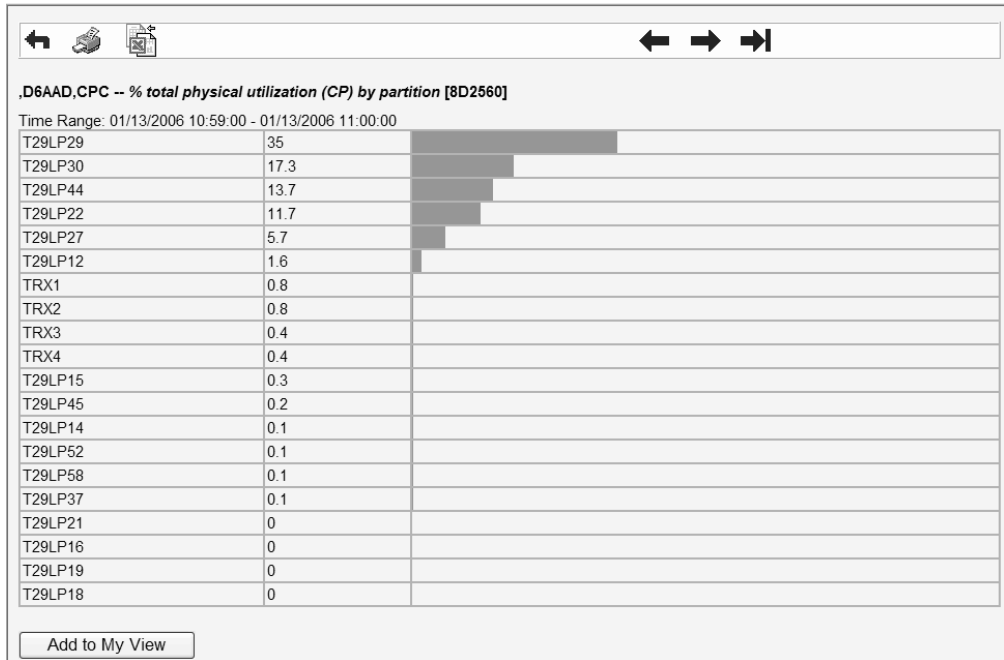

Figure 135. Total utilization of the processors by partitions
If you want to know the total utilization of the physical standard processors by the partitions in the CPC, click on *% total physical utilization (CP) by partition*. Clicking on this metric opens another view presenting the desired results, in our example, a list of partitions, showing the percentage of utilization for each (Figure 135 on page 238).